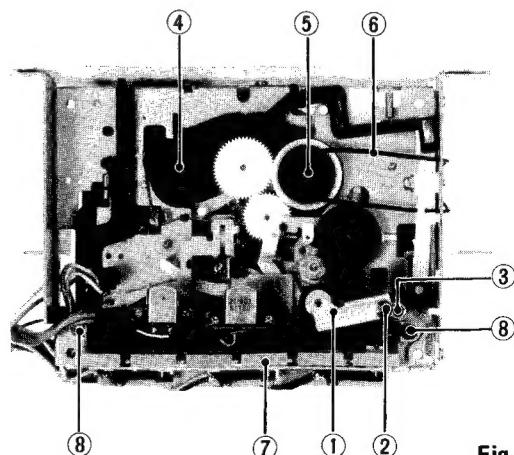

Fig. 6
1. Pinch roller ass'y ① (Fig. 6)
2. Supply reel disk and take up reel disk (Fig. 6)
3. Tape counter (Fig. 6)
4. Buttons case unit ⑦ (Fig. 6)